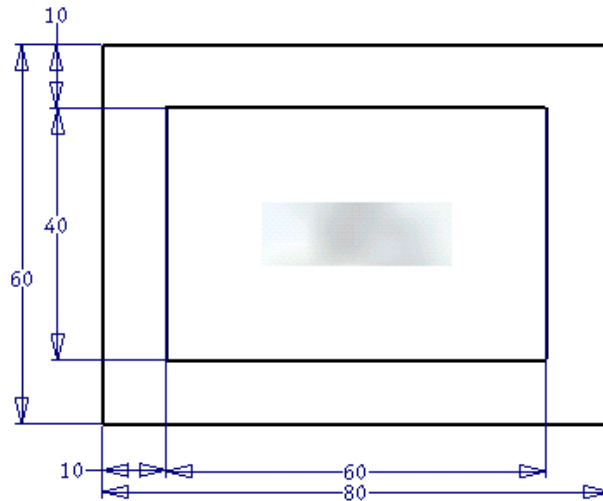

Figure 18-41 Modified dimensions of the cavity
2. Modify the dimensions of the cavity, as shown in Figure 18-41.